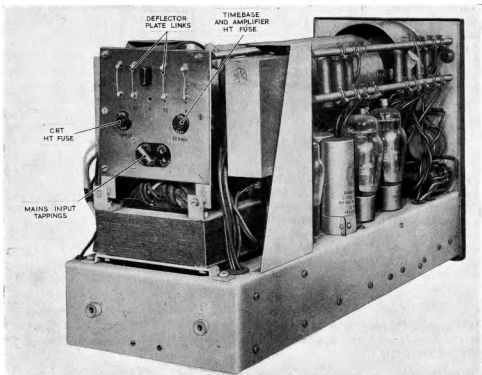

Fig. 19. Oscilloscope Type 10 : rear view of chassis
(1) The mains voltage selector link (fig. 19) should be placed between socket C and the 220-230 volts socket.
(2) Fig. 19 also shows the normal position of the Y1 link.
(3) In position 1 of the timebase switch the XI terminal is connected directly to the